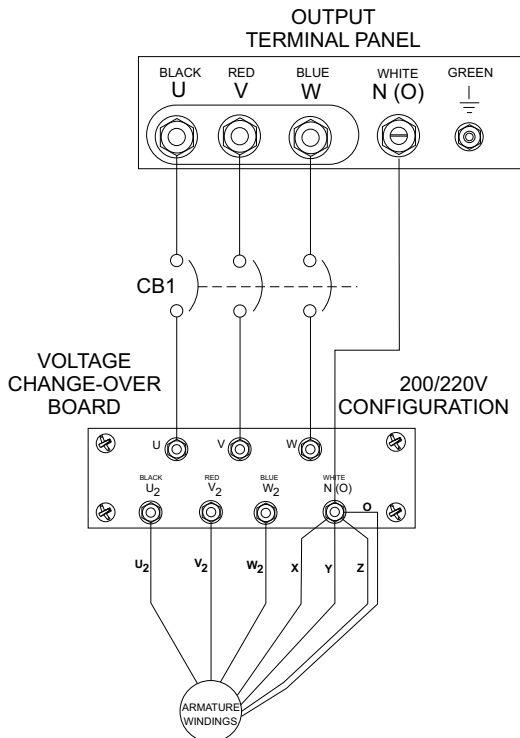
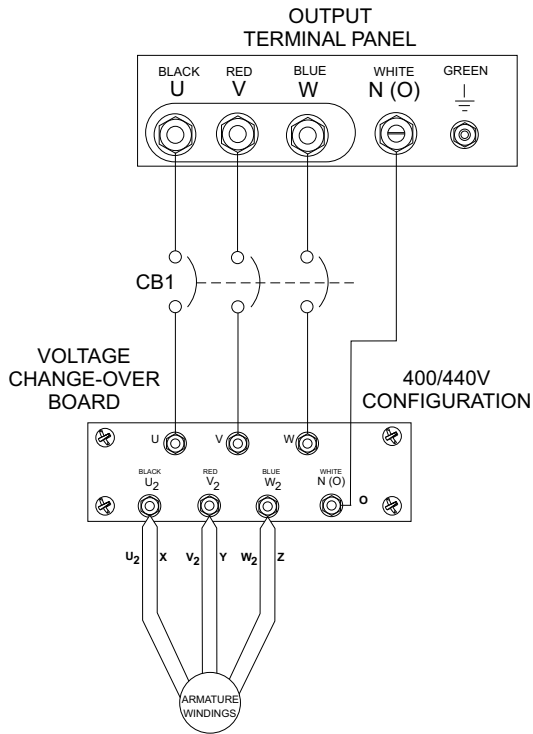

Figure 29. Voltage Change-Over Board 3Ø-240 Configuration
Figure 32. Voltage Change-Over Board 3Ø-480 Configuration
1. Configure the Voltage Change-Over Board for 3Ø 200/220 output voltage as shown in Figure 29.
1. Configure the Voltage Change-Over Board for 3Ø 480 voltage output as shown in Figure 32.
To obtain single-phase 120V output voltage, the voltage change-over board must be configured for 3-phase 200/220 volt (Figure 29).
To obtain single-phase 240 output voltage, the voltage change-over board must be configured for 3-phase 200/220 volt (Figure 29).
To obtain single-phase 480 output voltage, the voltage change-over board must be configured for 3-phase 400/440 volt (Figure 32).
1. Configure the Voltage Change-Over Board for 3Ø 400/440 output voltage as shown in Figure 32.
To obtain single-phase 277 output voltage, the voltage change-over board must be configured for 3-phase 400/440 volt (Figure 32).
2. Make sure the **voltage change-over board** has been configured for the desired output voltage. Reference Figure 29 and Figure 32.